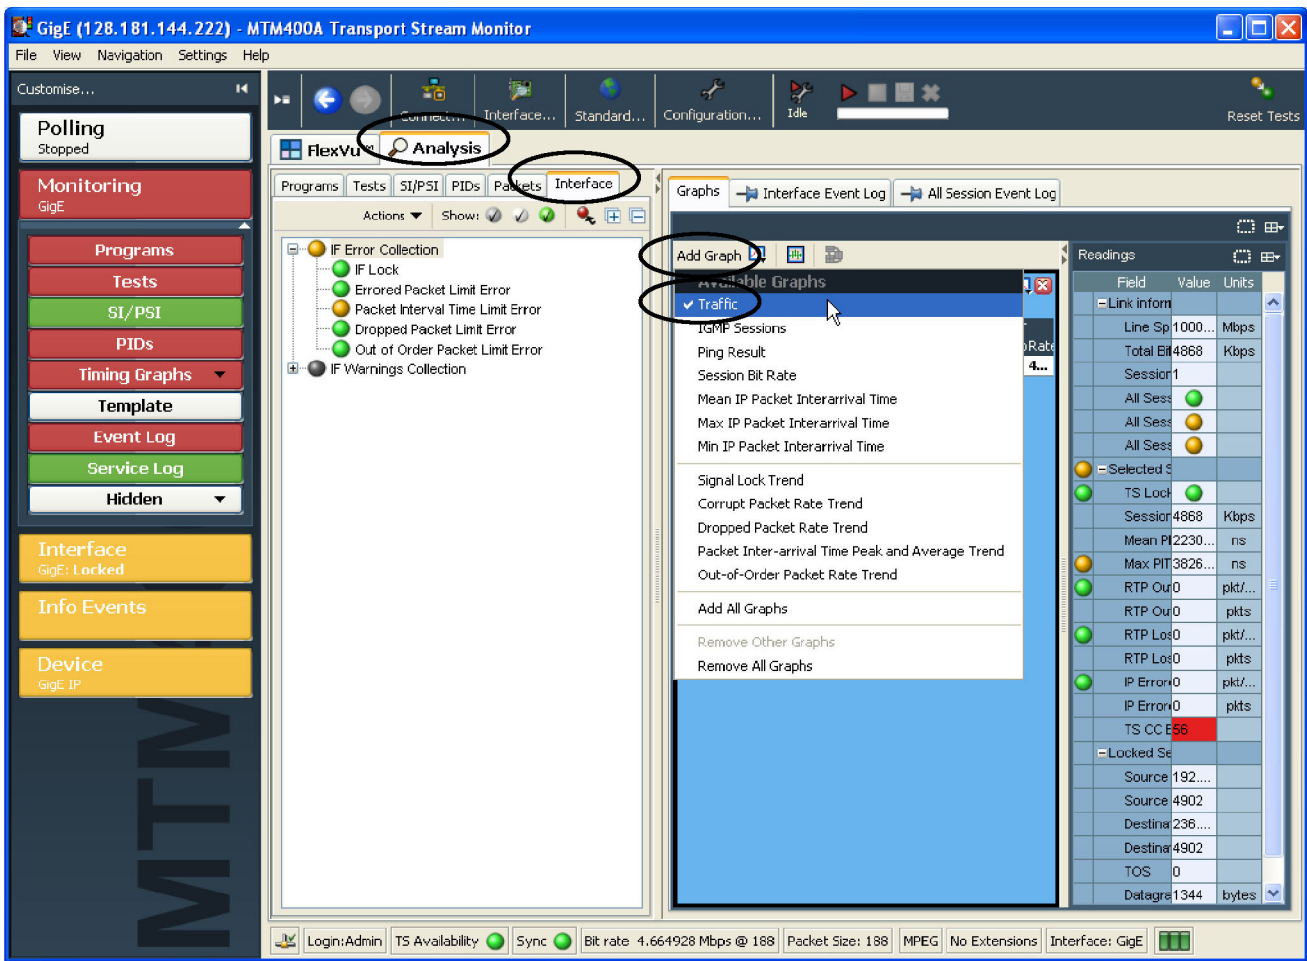

Figure 50: Selecting the Traffic graph
7. Click **Add Graph** on the Graphs tab, and then select **Traffic** from the Available Graphs drop-down list. (See Figure 50.)